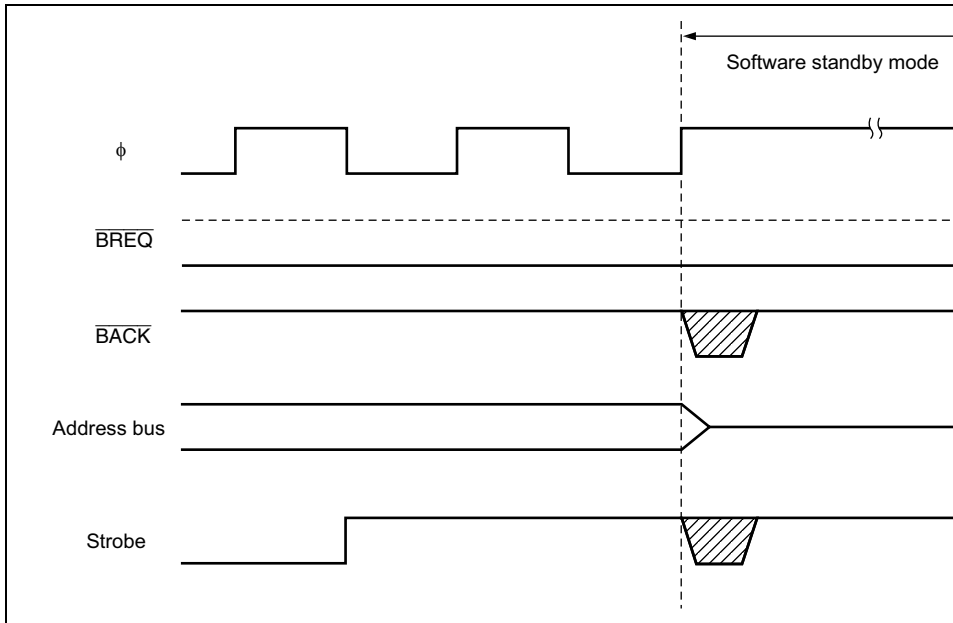

Figure 6.36 Bus-Released State and Software Standby Mode
- In the event of contention with a bus request from an external bus master when a transition is made to software standby mode, the $\overline{\text{BACK}}$ and strobe states may be indeterminate during the transition to software standby mode (see figure 6.36).
In the event of contention with a bus request from an external bus master when a transition is made to software standby mode, the \overline{BACK} and strobe states may be indeterminate after the transition to software standby mode (see figure 6.36).